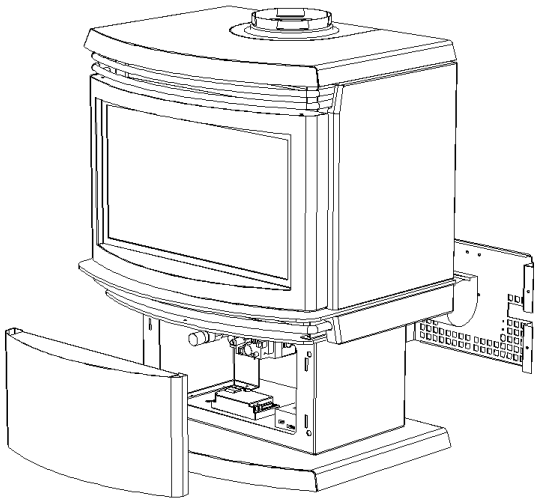

Figure 10c
2. Remove pedestal front cover and rear cover (4 screws) including fan (fig. 10c).